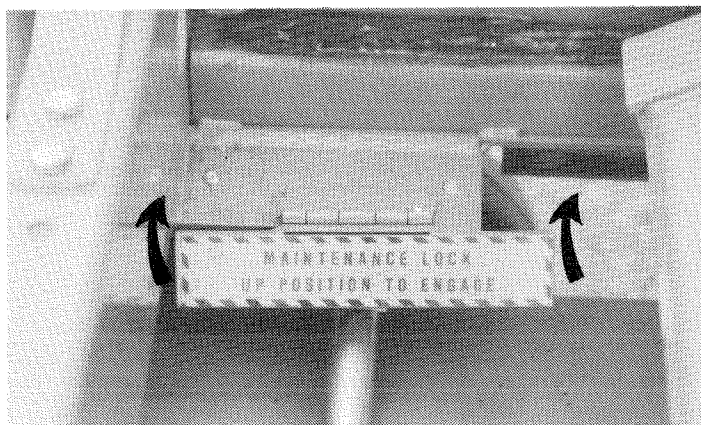

Figure 35. Engaging Maintenance Locks.
- 2. Engage maintenance locks, Figure 35.